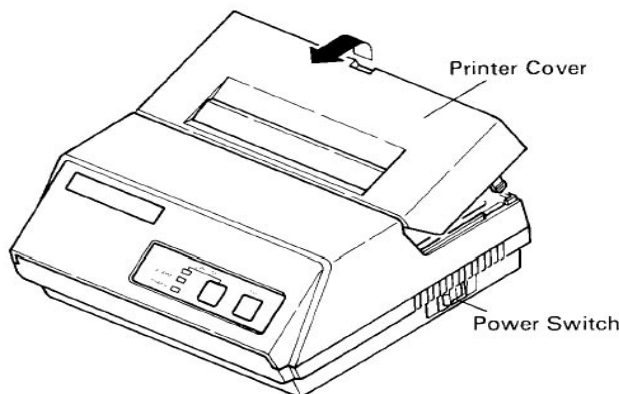

Figure 2-1. Printer Cover Removal
1. Turn power off, lift the Printer Cover up. See Figure 2-1.